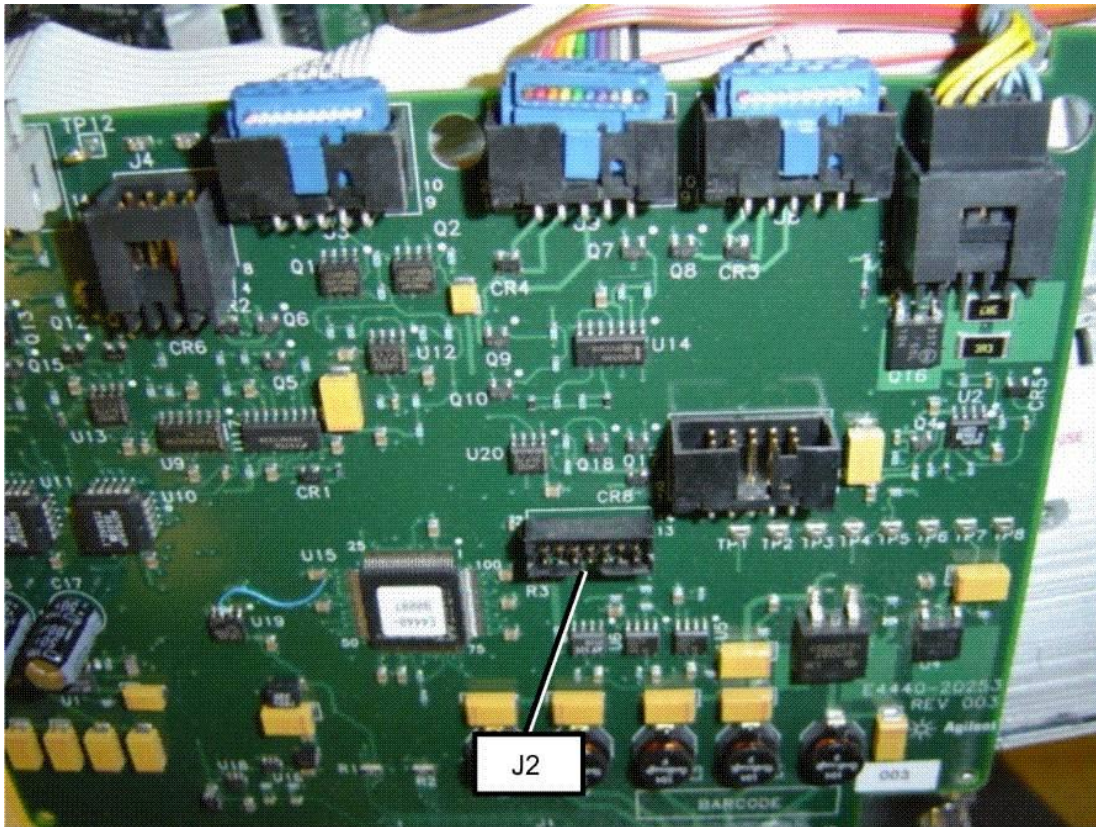

Figure 2. Location of J2 connector
4. See Figure 2. Locate J2 near the middle of the board. Connect the ribbon cable from the Parallel Cable's pod to the JTAG connector, J2, on the A38 option Driver Assembly being careful to align the keying tab on the cable with the J2 header slot.